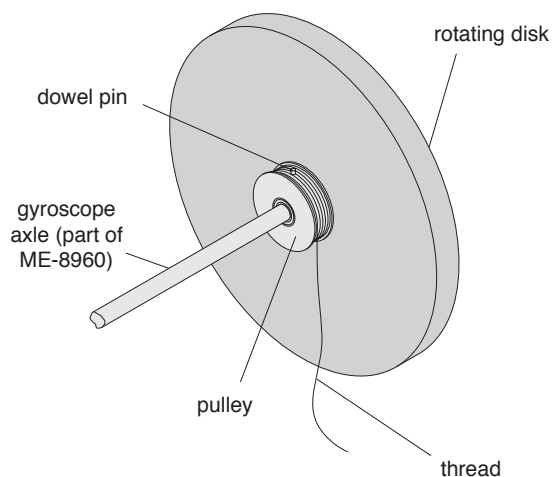

Figure 2: Using the Rotating Disk Pulley
- ① Make sure the rotating disk is secure on the gyroscope axle and decide which direction you want the disk to rotate.
- ② Tie a loop in the end of a length of thread (approximately 1.5 meters long) and put the loop around the dowel pin located on the surface of the rotating disk pulley and wind the thread around the surface of the pulley. See Figure 2.
- ③ Holding the gyroscope axle in place, pull the thread to rotate the disk at the desired speed.